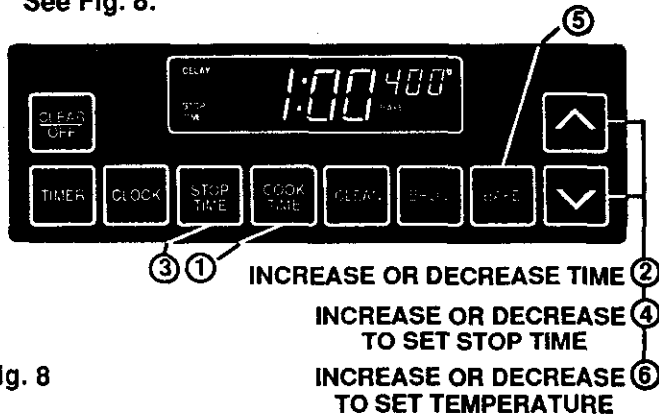

Fig. 8
6. Select temperature by pressing UP or DOWN arrow. See Fig. 8.